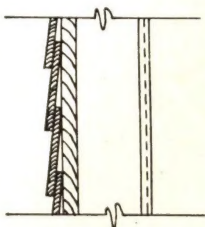

Fig. 19 U = .25
- Zonolite Insulation greatly increases insulating efficiency of wall and ceiling sections as shown in figures 19 through 26.